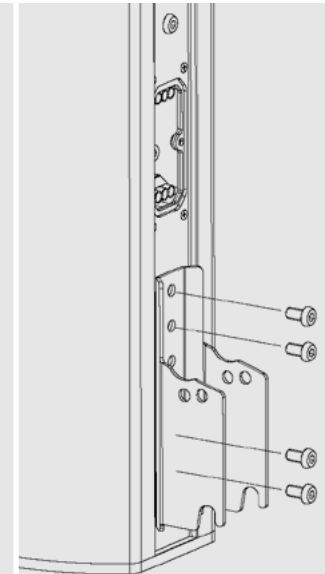

Figure 5
2. Fix the loudspeaker to the **WLX-100/WLX-221** mounting plate. Apply medium-strength thread lock fluid to all screws. On both brackets, use four of the locking screws you just removed. Tighten all screws according to the required torque. **SEE FIGURE 5.**